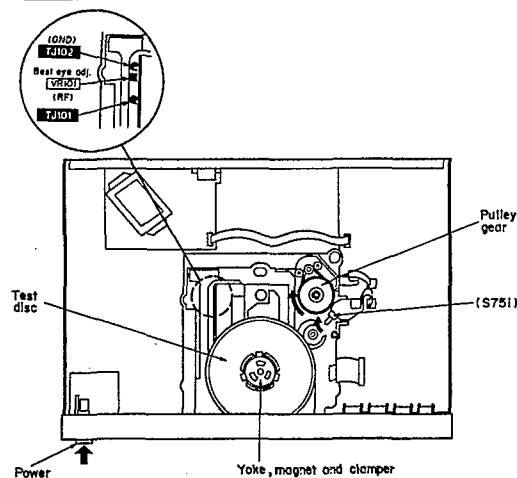

Fig. 1
1. Connect the oscilloscope's CH. 1 probe across TJ101 (+) and TJ102 (GND) on the servo P.C.B. (Refer to Fig. 1)